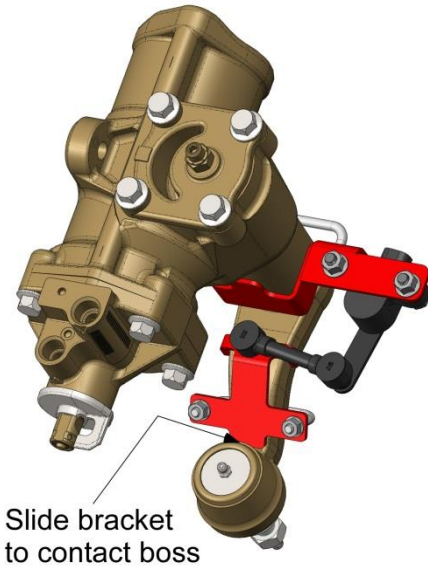

Figure 54. Pitman Arm Bracket installation.
6. Install the Pitman Arm Bracket over the pitman arm. Slide bracket to contact boss. See Figure 54.